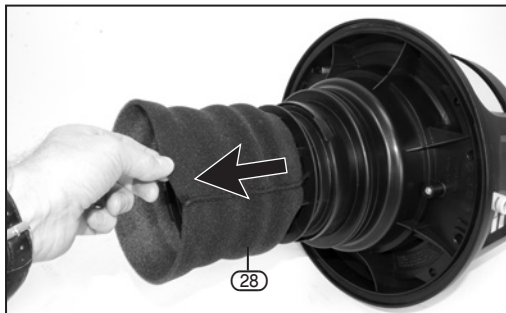

FIG. 5
7.1 CHANGING SETUP FROM WET TO DRY VACUUMING - FIGS. 5 - 6